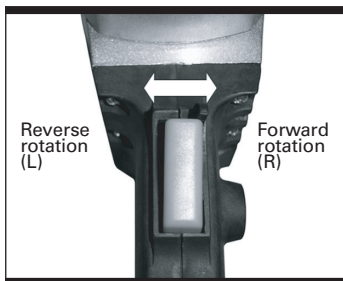

Fig 6
5. Changing rotational direction (see fig6)